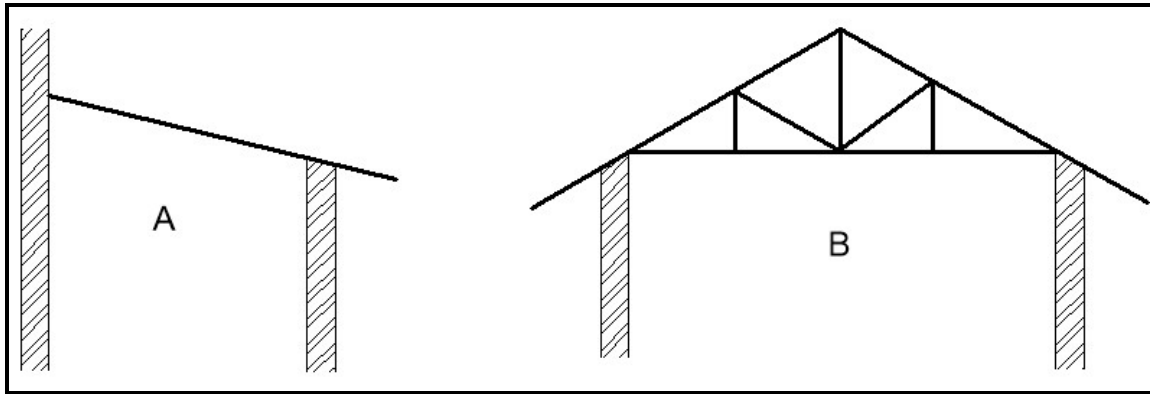

FIGURE 1.3
1.3 FIGURE 1.3 below shows TWO different roofs, A and B, that can be used in the building industry.